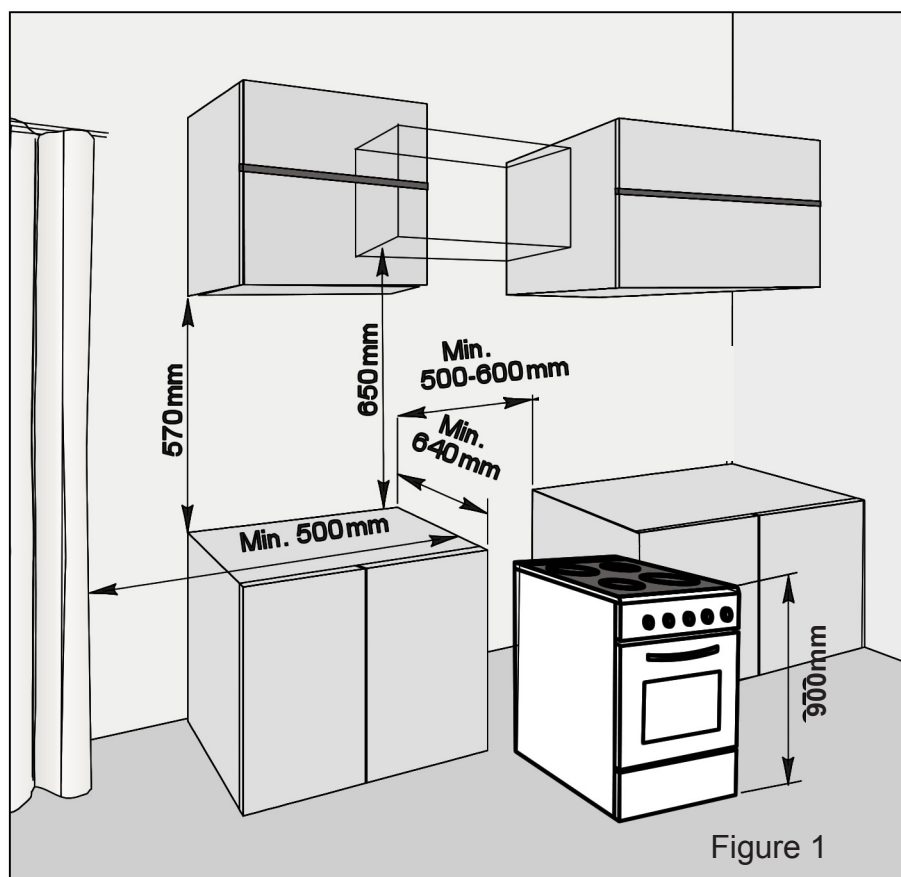

Figure 1
3. Surrounding furniture, cabinets and extractor fans should be positioned in accordance with the diagram shown in Figure 1.